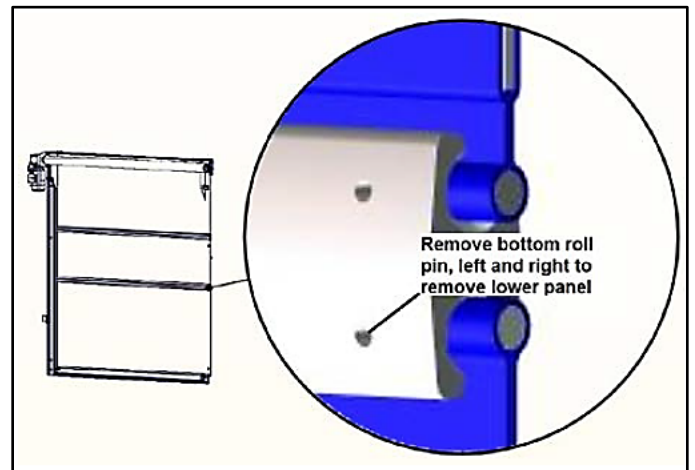

Figure 44
3. Remove roll pins (See Figure 44).